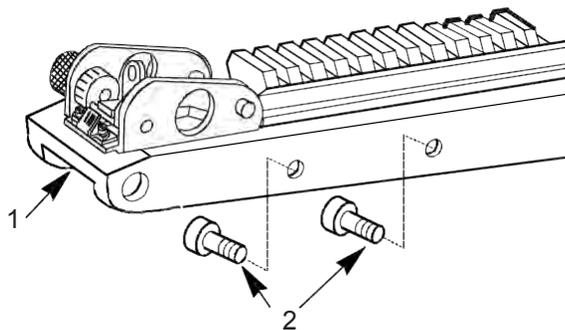

Figure 48. Retaining Pins, Cover.
21. Install two retaining pins (Figure 48, Item 2) from inside of cover (Figure 48, Item 1).